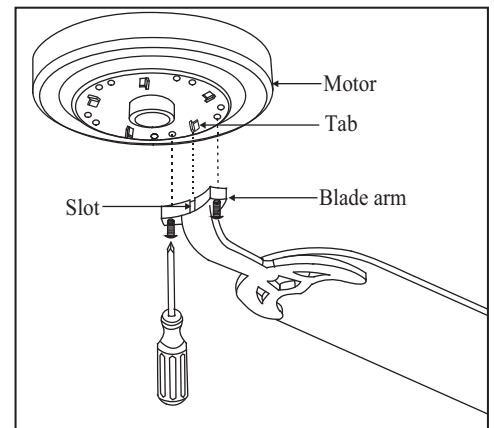

Figure 13
3. Fasten the blade assemblies to the motor housing by lining up the slots of the blade arms with the tabs on the motor housing, then tighten the two screws and washers already installed in the blade arms (Fig. 13).